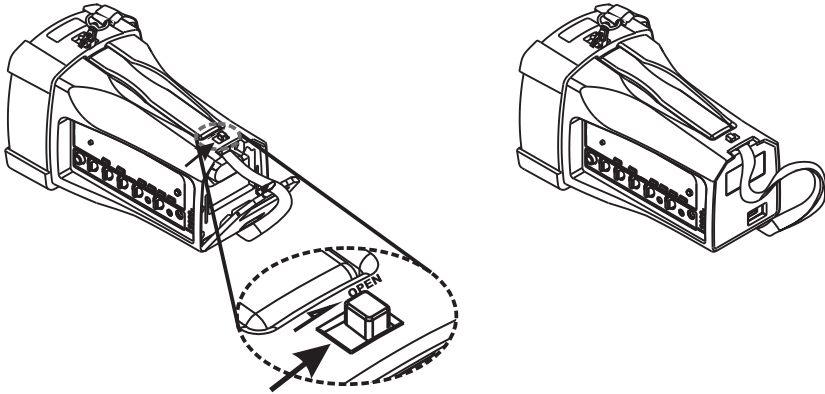

Fig. 36
- (F) Push latch to OPEN position with left hand and simultaneously replace the battery cover into place with right hand. Push latch to left to close and for a secured lock, Fig. 36.